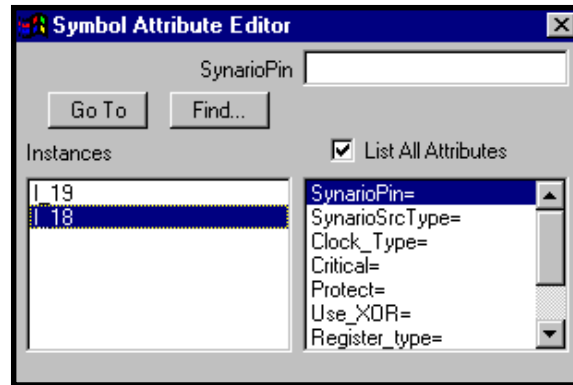

Figure 4-7. Symbol Attribute Editor Dialog Box
1. Select **Edit** ⇒ **Attribute** ⇒ **Symbol Attribute**. The Symbol Attribute Editor dialog box appears (Figure 4-7).